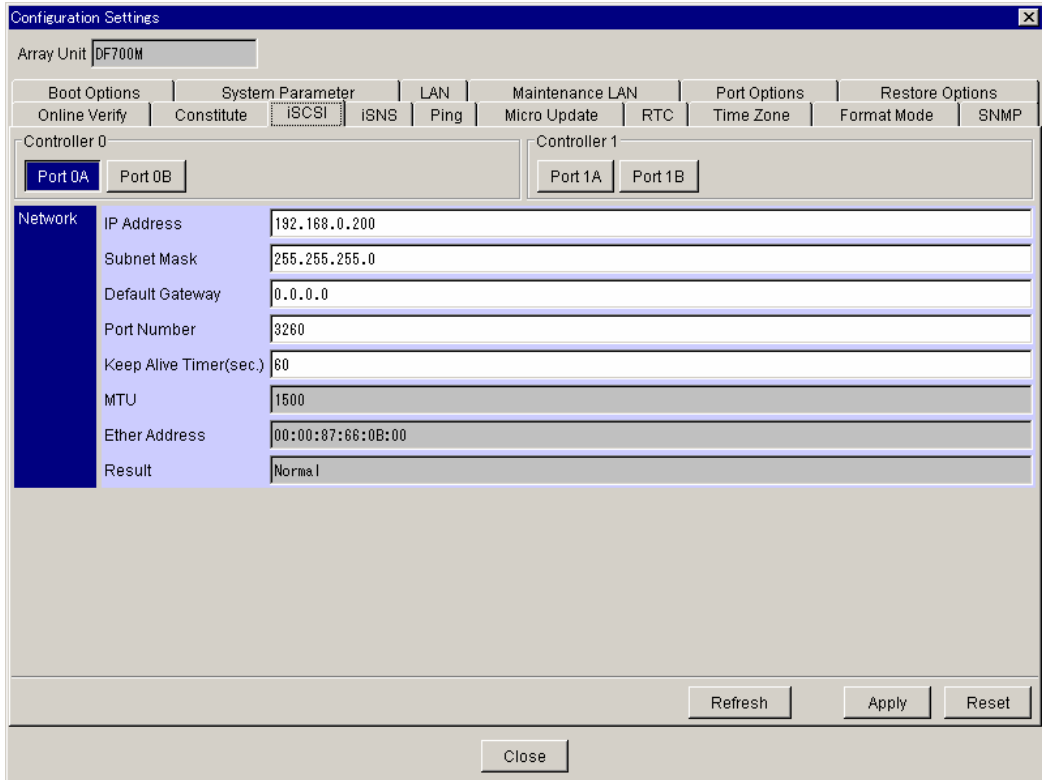

Figure 5.48 Setting iSCSI Port Information
2. Click the **iSCSI** tab (see Figure 5.48). For a detailed description of the **iSCSI** tab, refer to section 5.1.10.